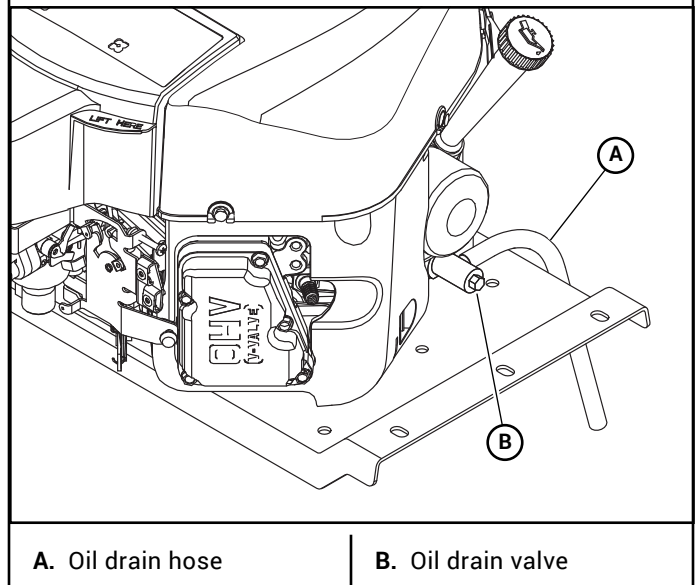

Figure 4-5
2. Locate the oil drain hose that was supplied with the machine. Be sure to clean and clear it of debris that might block the flow of the engine oil. Figure 4-5
3. Attach one end of the hose onto the oil drain valve nipple. Make sure the hose is pushed all the way onto the valve. Figure 4-5
8. Clean the oil drain hose and store it appropriately. Figure 4-5